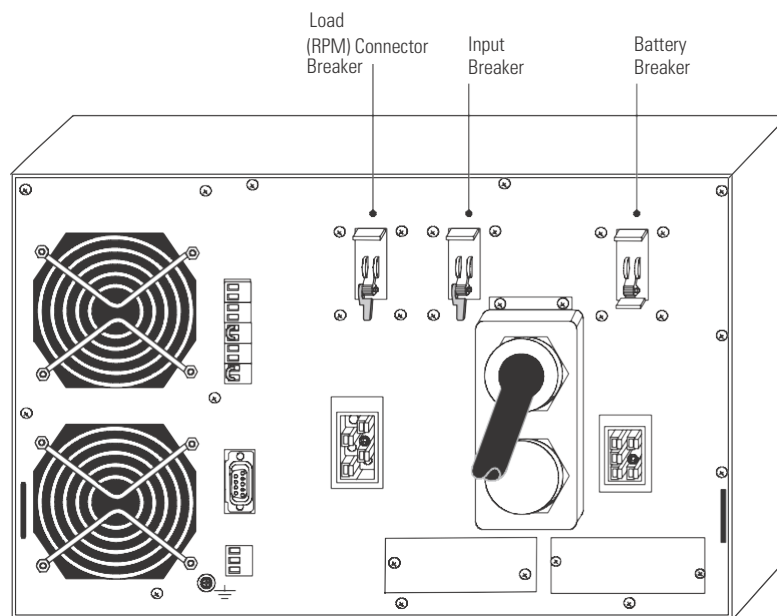

Figure 12. BladeUPS Module Rear Panel
1. Verify that all battery circuit breakers on all UPSs are in the OFF (O) position (see Figure 12).